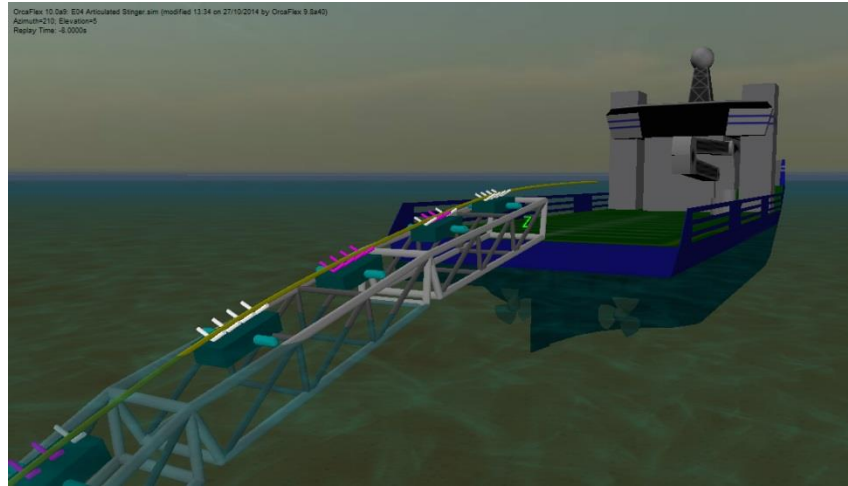

Figure 6-1: Supports on a Pipelay Stinger
- Pipelay stingers (**Figure 6-1**)